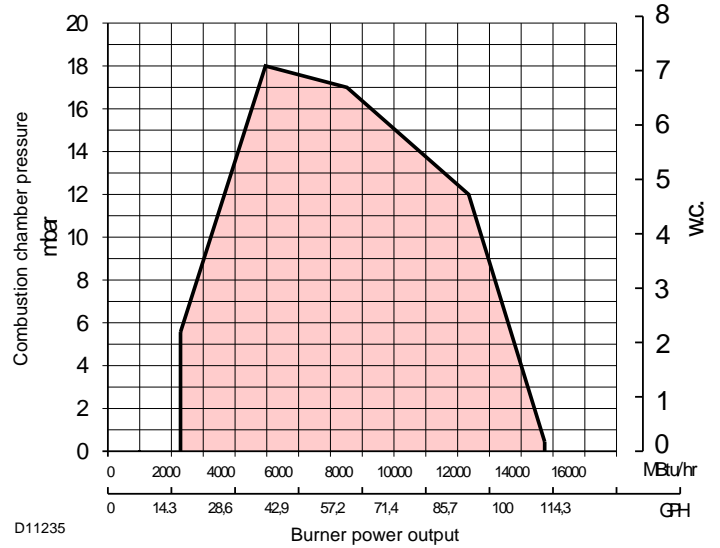

Fig. 3
**MAXIMUM OUTPUT** must be selected in the hatched area of the diagram (Fig. 3).